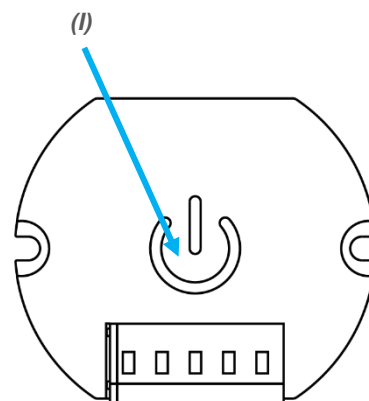

Figure 4: Classic Inclusion
Add DIMMY to a network with Classic Inclusion by triple-pressing on the switch shaped as a power symbol (I) (Figure 4). The LED inside the module will start blinking.